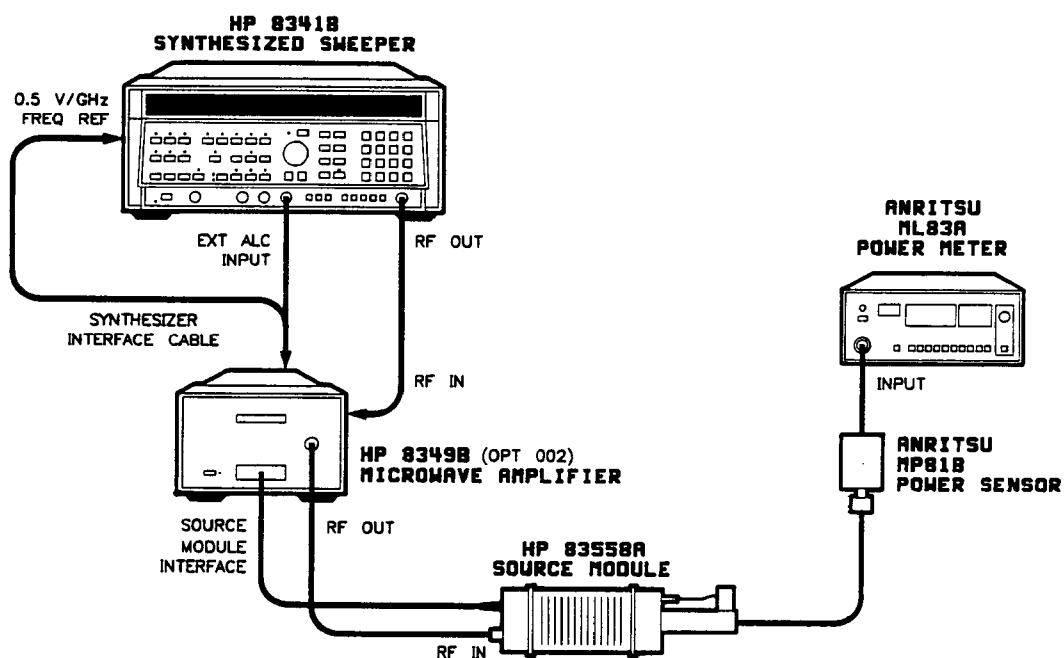

Figure 2c-3. System Configuration
1. Connect the equipment as shown in Figure 2c-3. Do not connect the power sensor to the HP 83558A output.